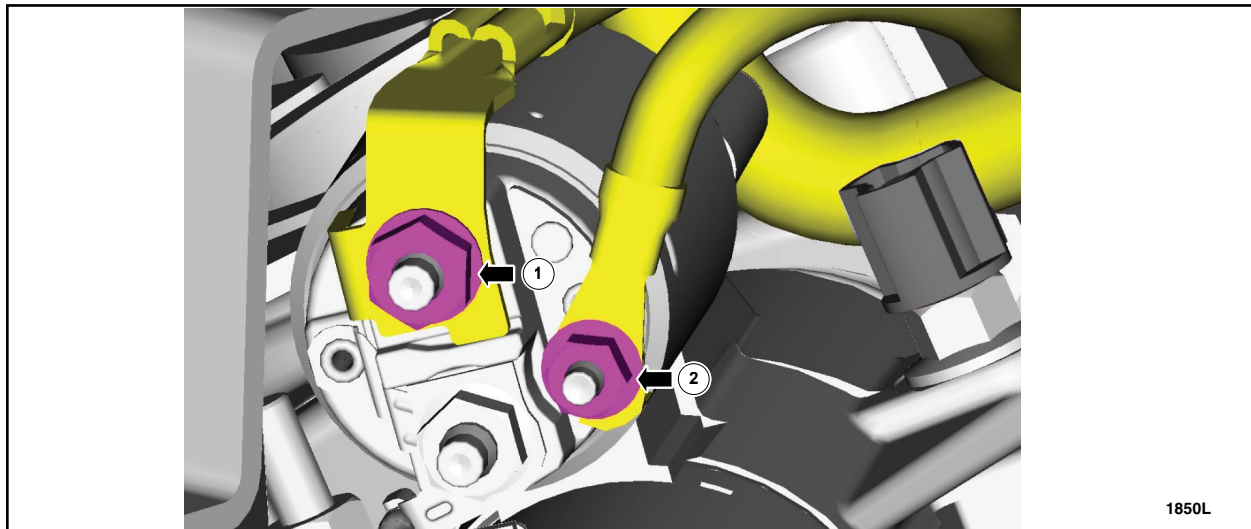

FIGURE 15
3. Inspect the starter motor battery positive cable nut and stud and the starter control wire nut and stud for cross threading or damage and torque both nuts. See Figure 15.